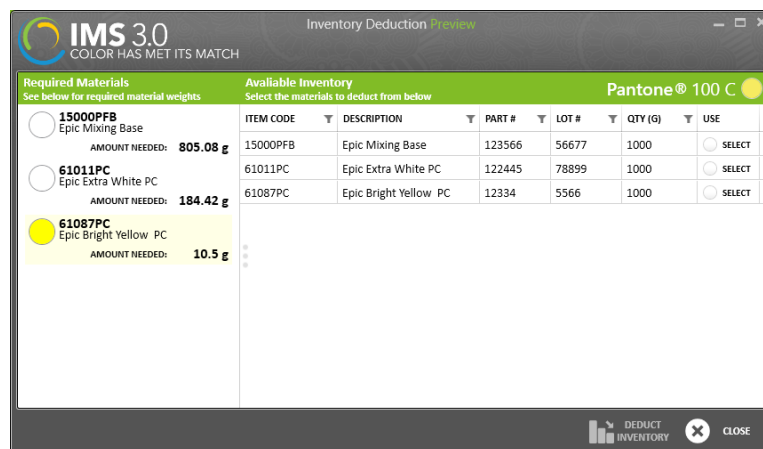

Figure 29 Check for adequate inventory prior to Blending
3. After clicking the “Deduct Inventory” button the following screen will appear. On the left hand side you will see the amount of each ingredient needed for the mix and on the right you will see the available inventory for each ingredient needed. (Figure 29)